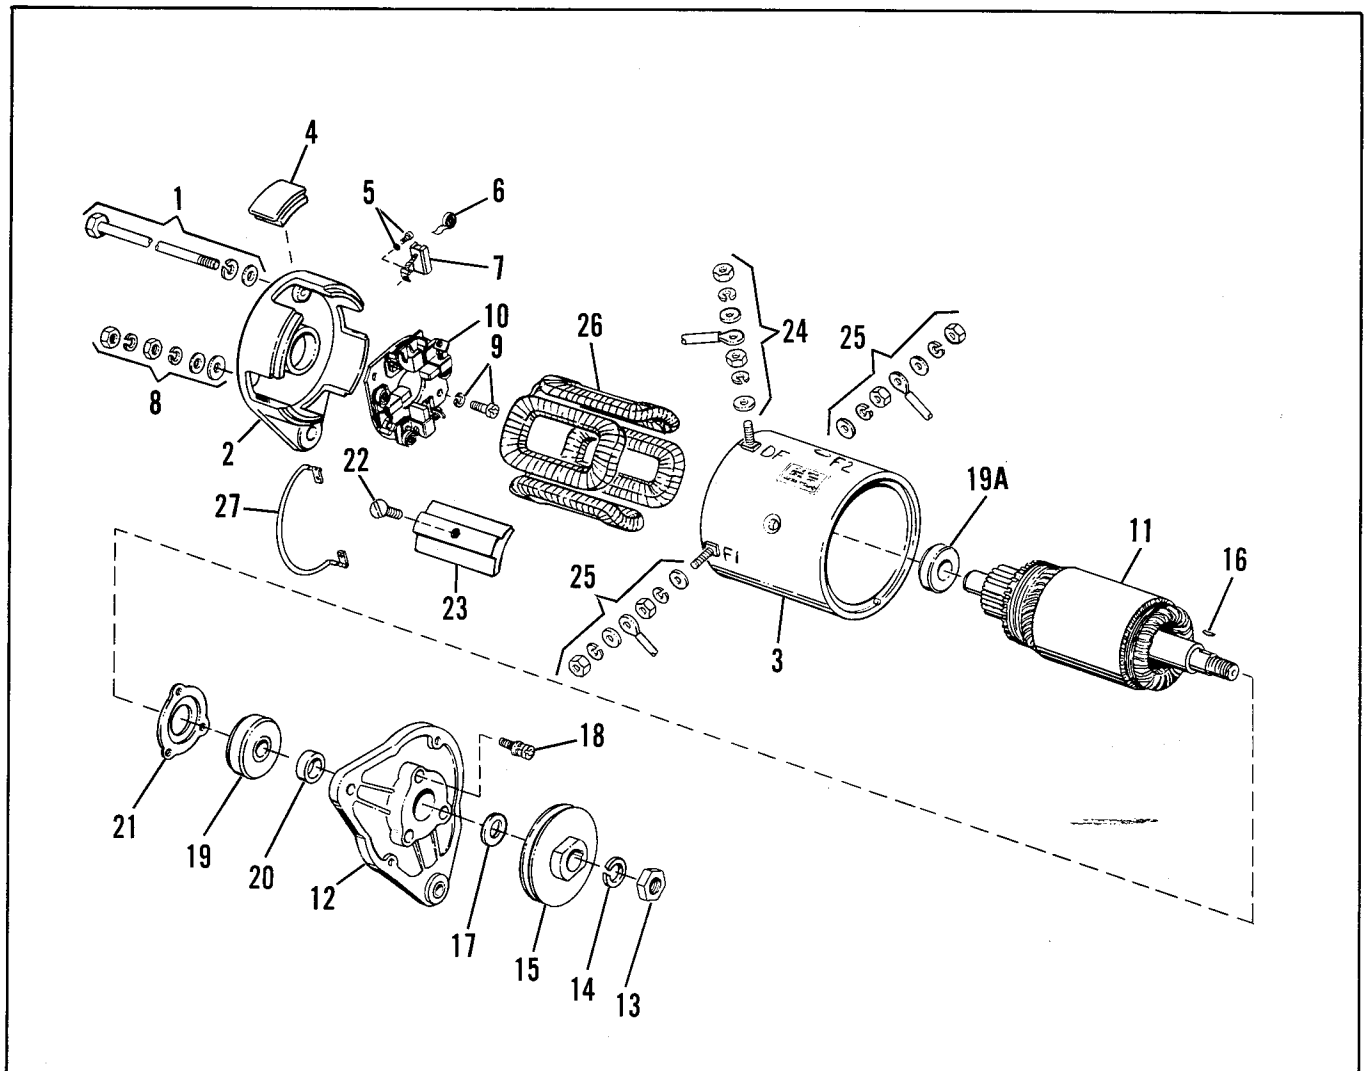

Figure 91 – Starter-Generator Disassembly
Disassembly (Figure 91)
Assembly (Figure 91)
- c. Figure 91 shows correct stacking of wire mounting bolt hardware (24), (25).